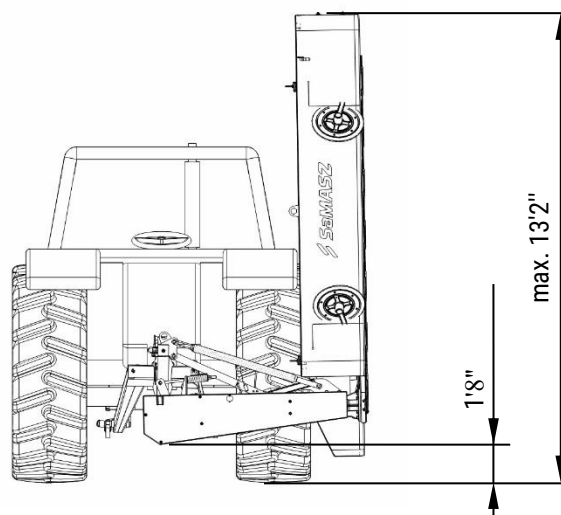

Fig. 13. Rear disc mower in its transport position
- ❑ lift the mower with tractor hydraulic lift until the lower lift pins of the mower 3-point linkage frame raise about 1' 8" above the ground (**Fig. 13**),